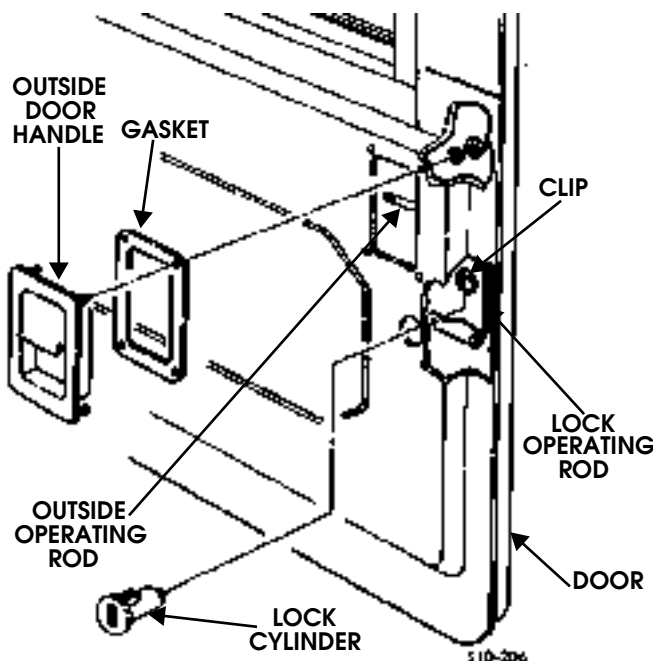

Figure 10-65: Lock Cylinder and Outside Door Handle
9. Push lock cylinder through outside of door. Remove clip securing lever and lock operating rod to cylinder and remove cylinder from door (Figure 10-65).
4. Connect outside operating rod to outside door handle, and secure gasket and outside door handle to door with nuts and lockwashers (Figure 10-65).